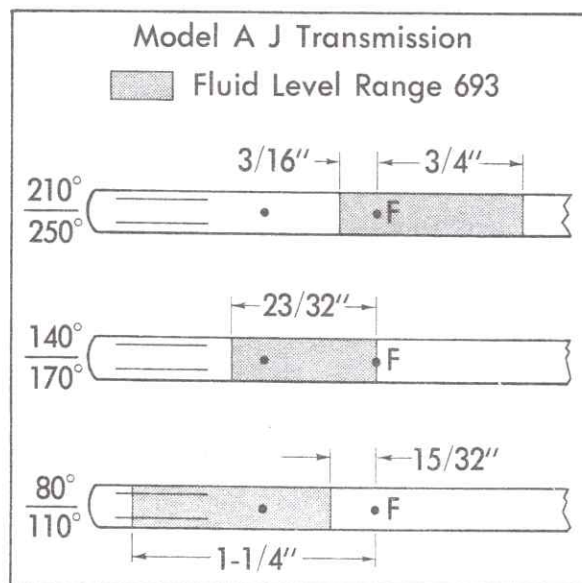

Fig. 7-133 Transmission Oil Level (693 Only)
The bottom pan should be drained every 24,000 miles or 2 years, whichever occurs first, and fresh fluid added to obtain the proper level on the dipstick, Fig. 7-133. For cars subjected to heavy
Fluid level should be checked at every engine oil change. The full "F" and "ADD" dimple marks on the transmission dipstick indicate one pint difference. Correct fluid level is determined at normal operating temperature (180°F - 190°F). Careful attention to transmission oil temperature is necessary, as proper fluid level at low operating temperatures will be below the "ADD" mark on the dipstick, Fig. 7-133, and proper fluid level at higher operating temperatures will rise above the full "F" mark. Fluid level must always be checked with car on level surface, and with engine running to make certain converter is full. To determine proper fluid level, proceed as follows:
3. With engine running, add fluid, if necessary, to bring to proper level, Fig. 7-133.
9. Reduce engine speed to slow idle and check fluid level. Add fluid to bring to proper level, Fig. 7-133.
4. Check fluid level and add additional fluid to bring to proper level, Fig. 7-133.